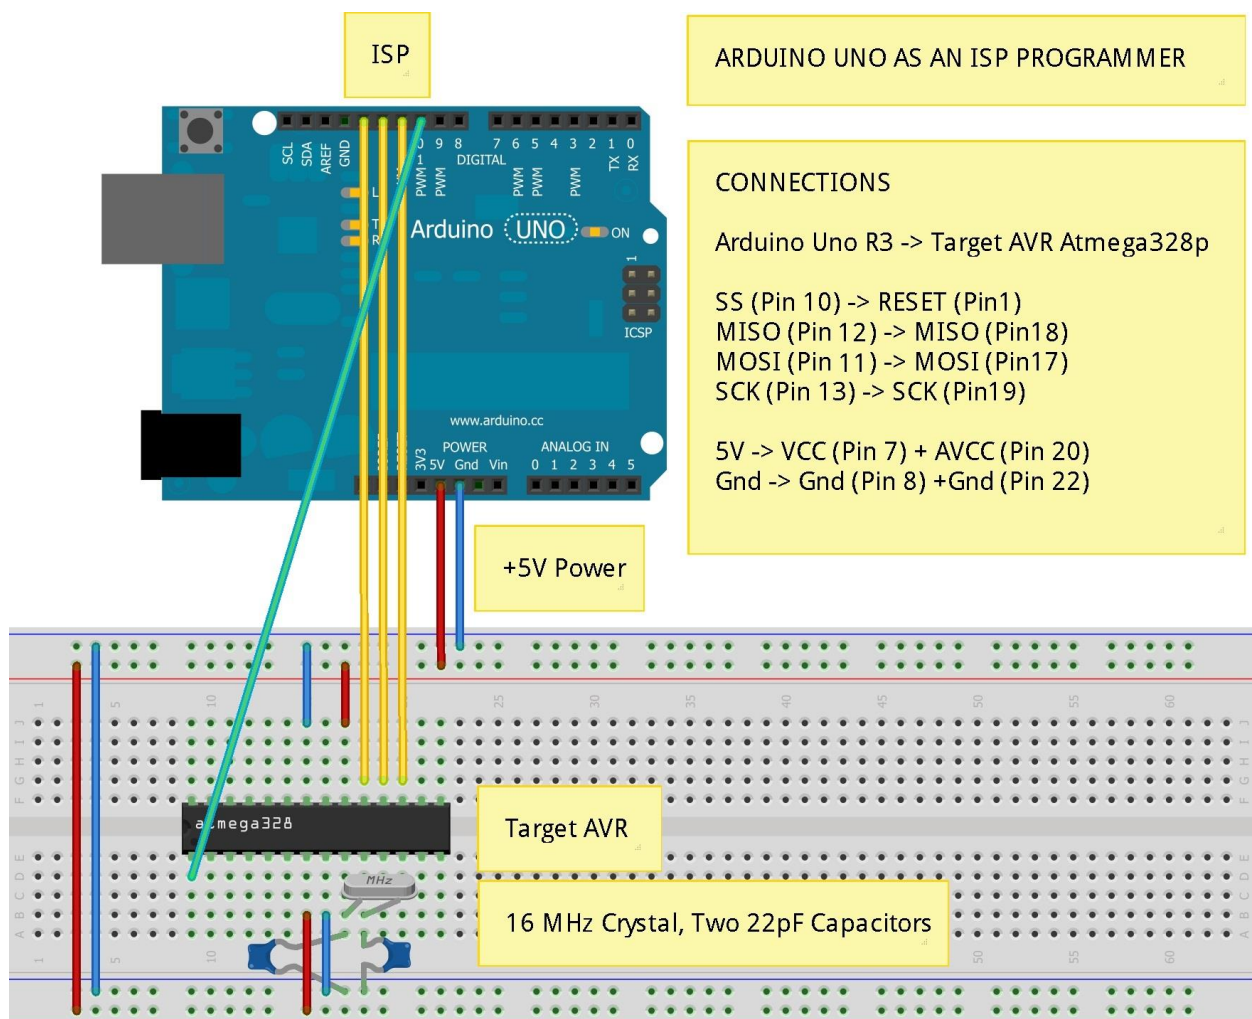

Fig. 1
- 2) Connect the **ISP pins** of **Arduino Uno** to the **Target AVR** as indicated in the Fig.1.
(2) Connect the ISP pins of Arduino Uno to the Target AVR as indicated in Fig.1
As a note: The crystal and its two capacitors have to be as close to **XTAL1**, **XTAL2** pins of the **Target AVR** as possible (like in Fig. 1). If you position them in a different configuration, far from the processor, running wires between capacitors, crystal and the AVR, the newly formed oscillator can refuse to work and **avrdude** will throw the error “Invalid device signature” when you try to program the microcontroller.
At this moment, it is supposed that **Arduino Uno** is already loaded with **ArduinoISP**, connected to the **PC** with an **USB** cable and all wires, between the **Target AVR** and **Arduino Uno** acting as an **ISP** programmer, are in their place as in Fig. 1.